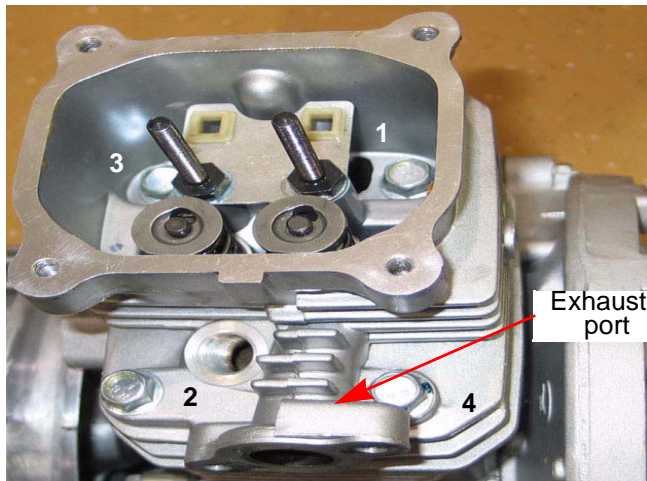

Figure 9.7
- Install the 4 head bolts, and tighten them to a step torque of 212 in-lb. (24 Nm) in an alternating diagonal pattern. See Figure 9.7.